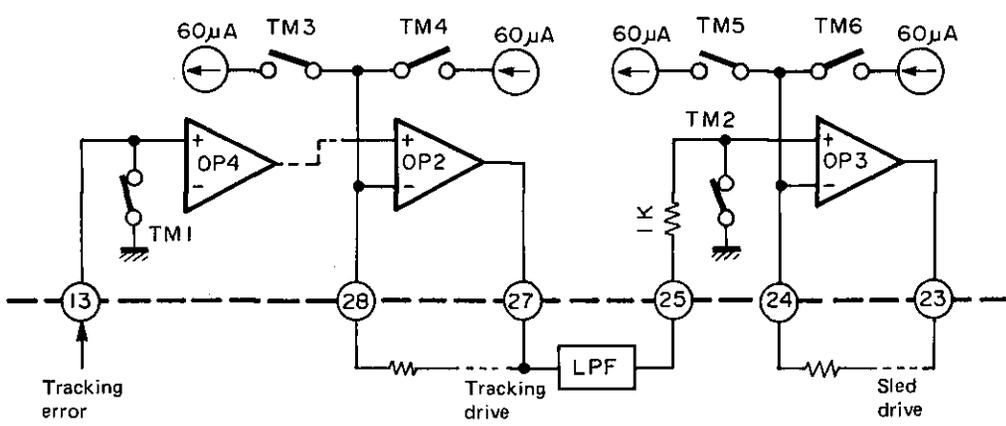
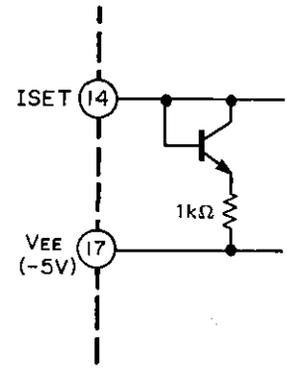

Fig. 6-15 TM1 ~ TM7
Fig. 6-16 ISET terminal
The circuit composition is shown in Fig. 6-15. TM1, TM2 make servo ON/OFF, and TM3~TM6 produce jump pulse and fast feed pulse. See truth value table for details.
Figure 60µA is observed in Fig. 6-15. This value is of the case where 240µA is fed to ISET (14) terminal like SF1. The circuit of (14) terminal is as shown in Fig. 6-16. Therefore, the potential is around (-)VEE + 0.9V.